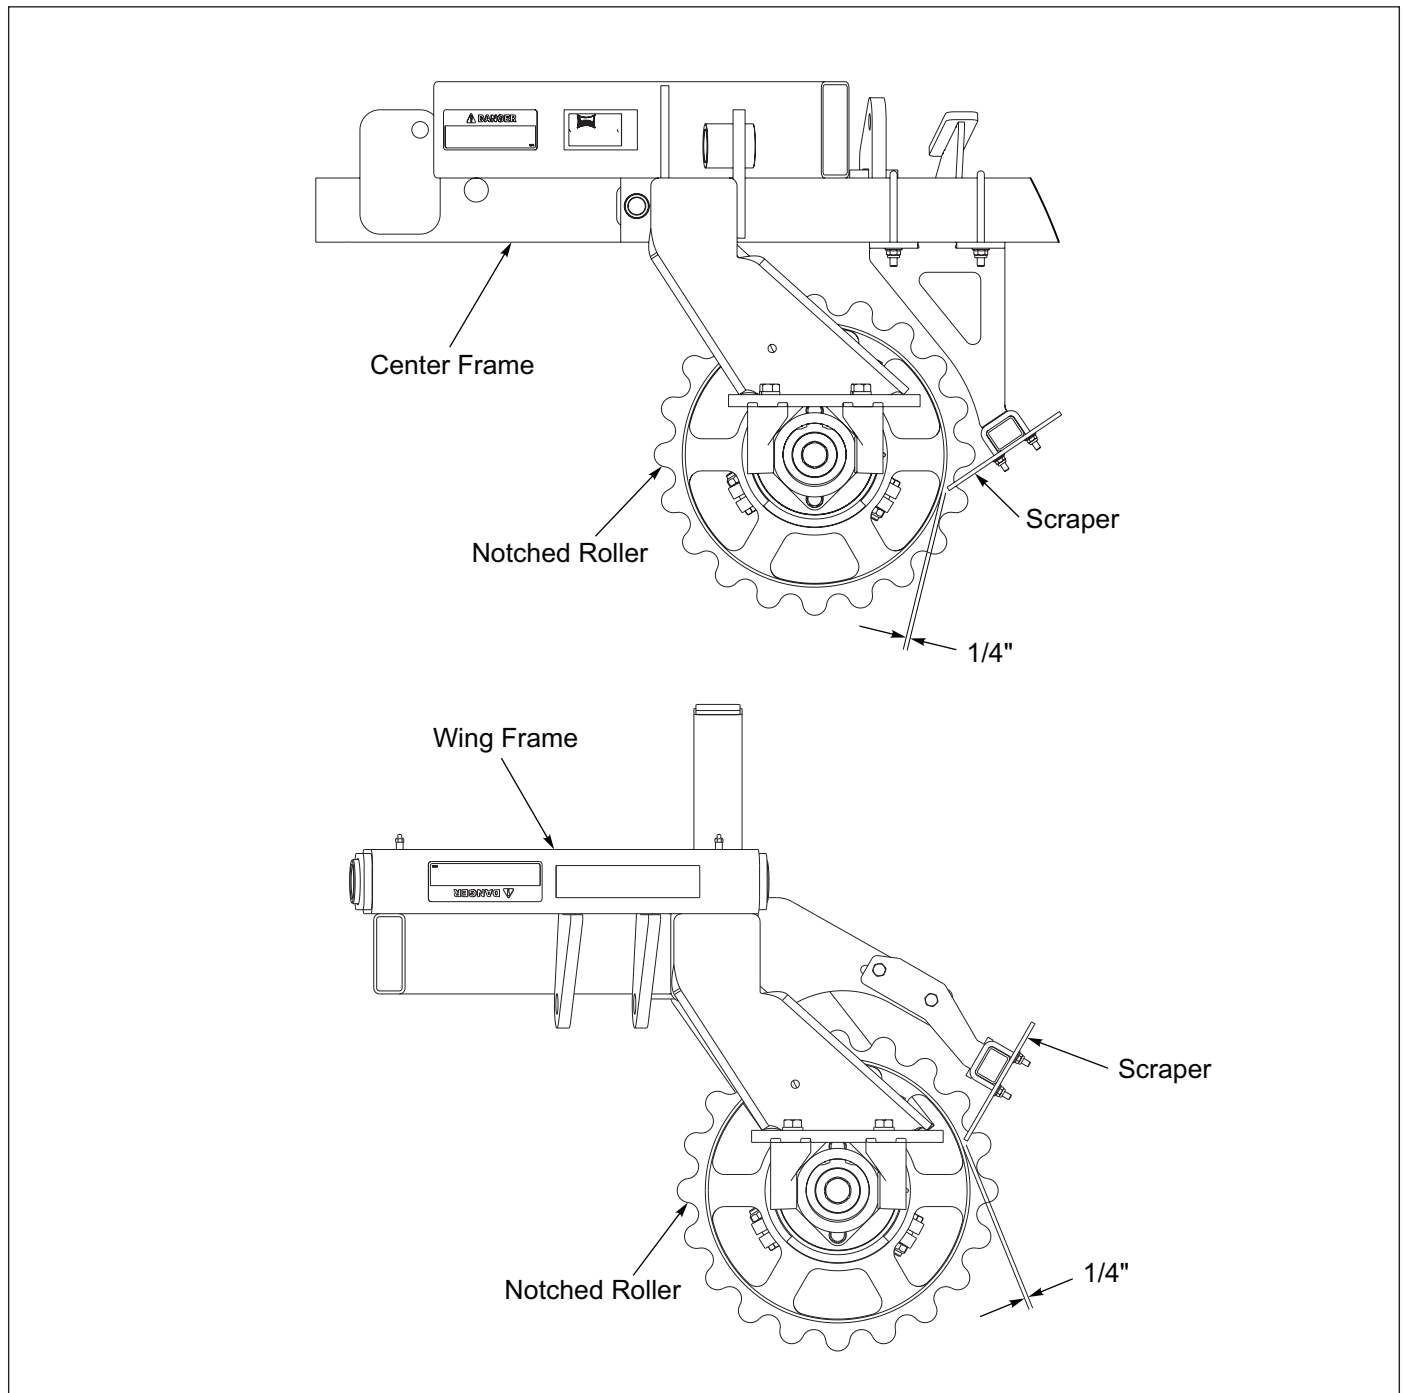

Figure 3-10: Scraper Adjustment
3. Adjust Scrapers as needed to obtain a 1/4" gap between the Scraper and Notched Wheels. See Figure 3-10.